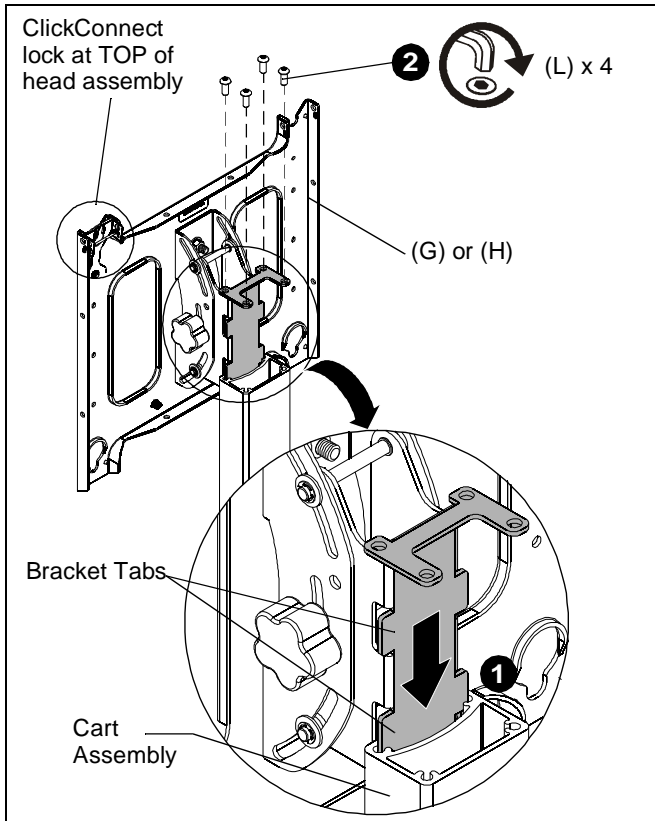

Figure 5
IMPORTANT ! : When attaching head assembly ensure that the ClickConnect lock is at TOP of head assembly, and bracket tabs slide into the stand assembly. (See Figure 5)
1. Slide head assembly (G) or (H) into the stand assembly. (See Figure 5)
2. Attach head assembly (G) or (H) to the cart assembly using four 5/16-18 x 3/4" button head cap screws (L). (See Figure 5)